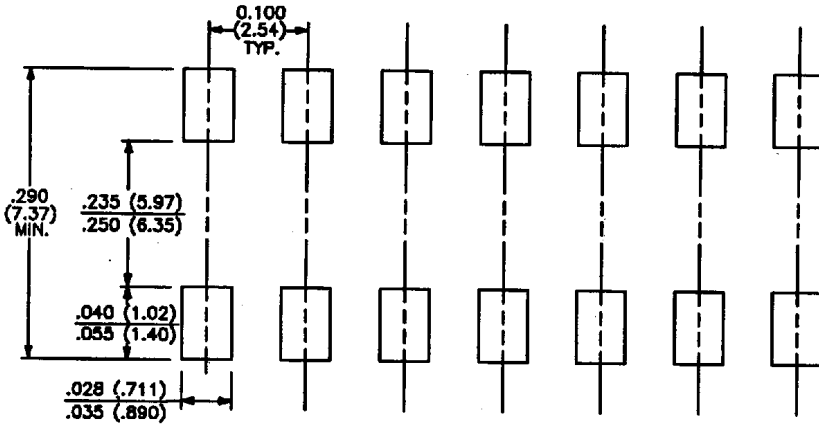

FIGURE 28: Recommended footprint, 14-pin J-Style.
- Figure 28 represents the 14-pin J-STYLE solder pad we recommend.